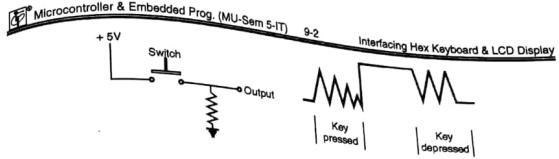

Fig. 9.1.2 : Bouncing of key switch
- The key debouncing is done through hardware and software. Fig. 9.1.2 shows the bouncing of key switch.